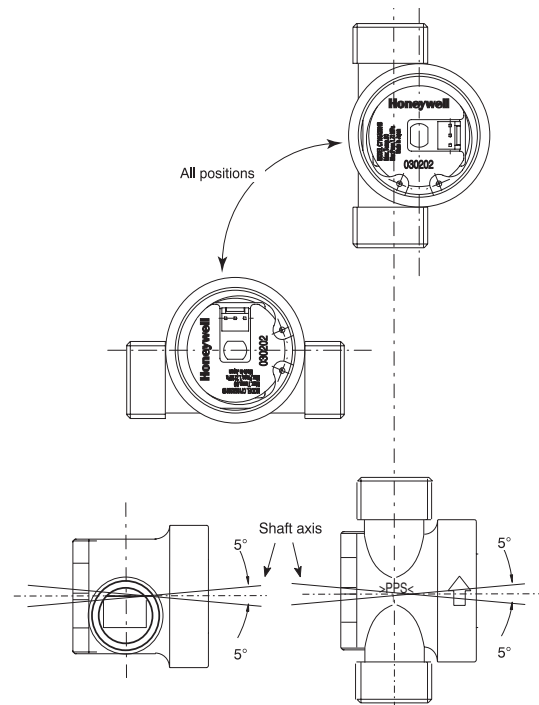

Fig. 4. Mounting positions C7195A2
- The shaft of the rotor shall be horizontal or vertical  $\pm 5^\circ$ . See fig. 4.